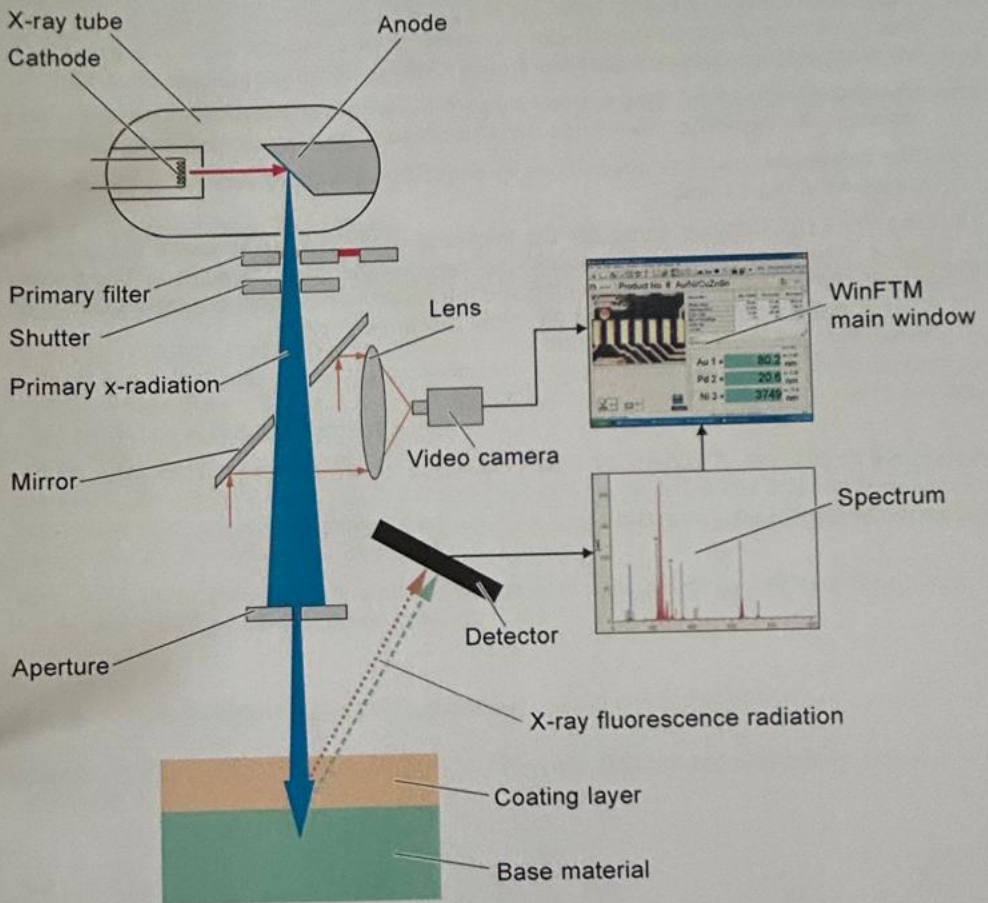

Fig. 2-2: Functional principle of the instrument
4. A light source (not shown in Fig. 2-2) illuminates the sample. A mirror and lens direct the image of the measurement location to a color video camera. The mirror has a hole in its center for the primary radiation to pass through.